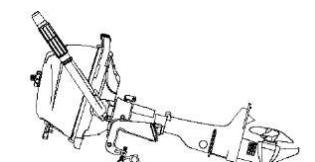
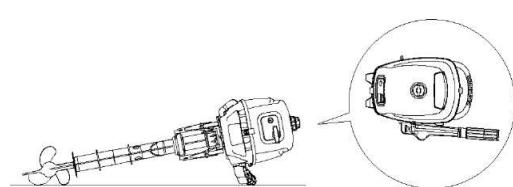

figure 2
figure 3
- Place a towel or something similar under the outboard motor to protect it from damage when as shown in the figure 2 or figure 3 above.